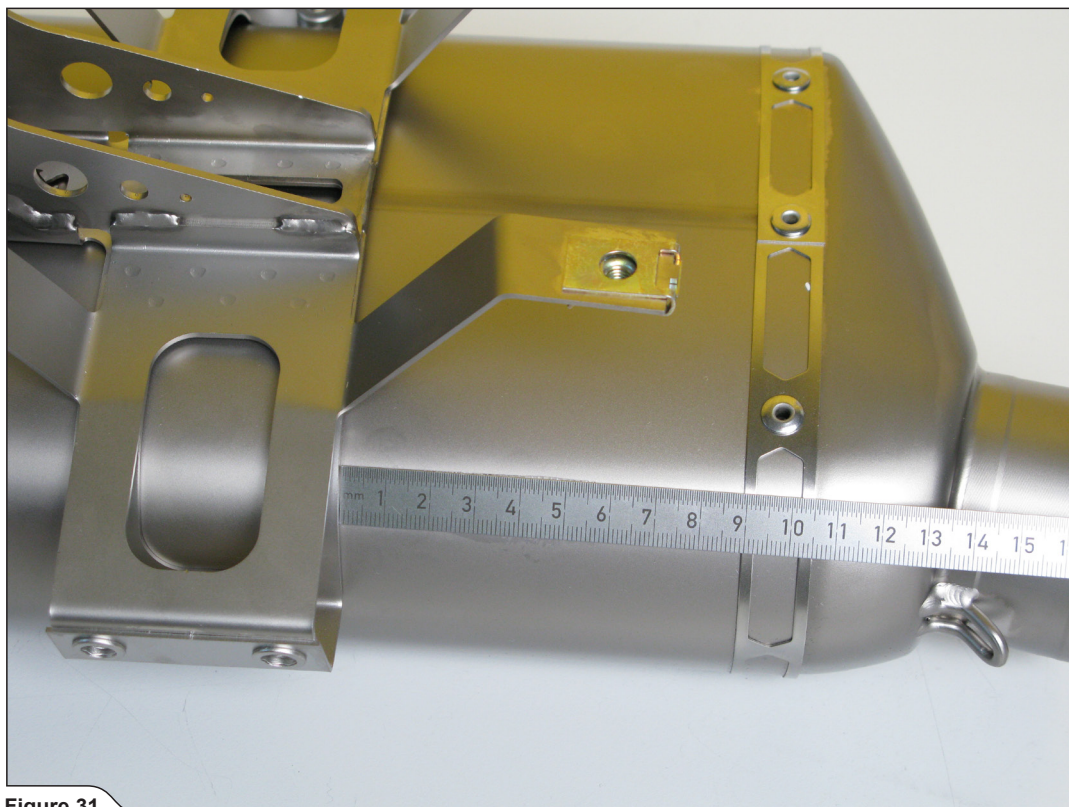

Figure 31
10. Set the muffler bracket 105 mm from the edge of the muffler, as shown (Figure 31).